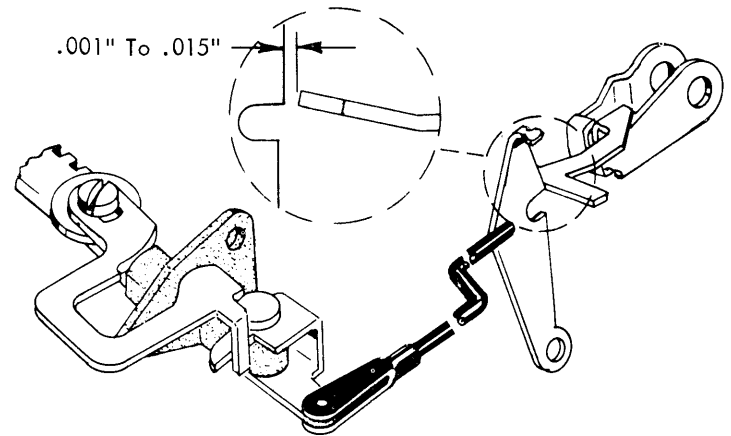

FIGURE 149. Clutch Unlatching Link
8. Clutch Unlatching Link - With the margin rack held to its left limit the carrier return latch keeper should clear the latch by .001" to .015" at the unlatching point (Fig. 149). Check by manually holding the latch at the unlatching point while the machine is idling. Lengthen or shorten the unlatching link to obtain this clearance.